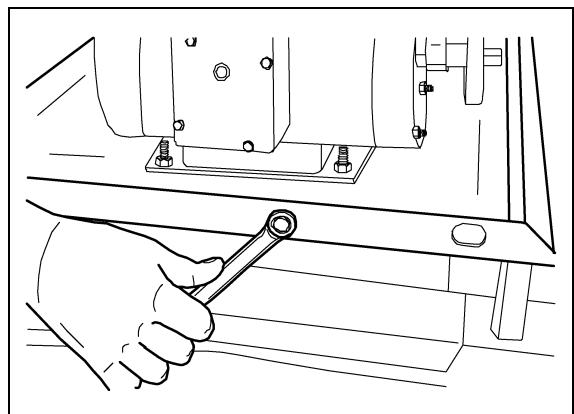

Figure 4N
9. Next, place the A-31 belt onto the pulleys. Tighten the belt to its proper tension of 3/8" deflection at ten pounds of pressure by turning the 3/8" cap screw as shown in \(See Figure 4N\). Tighten the four 5/16" nuts on the motor base. Replace the belt shield.